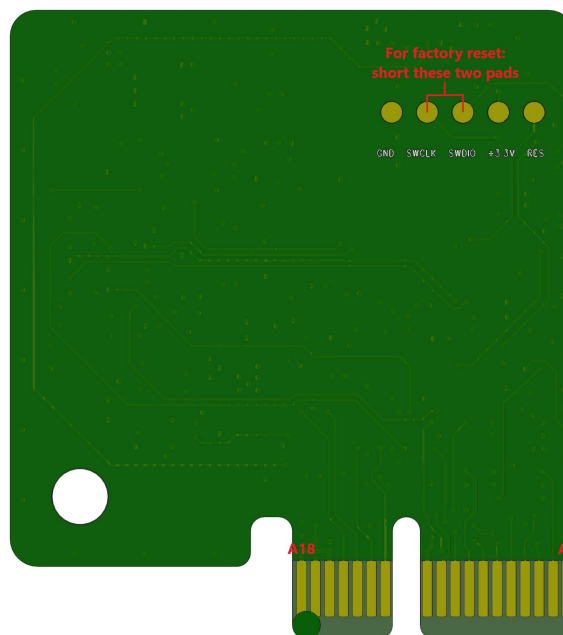

Figure 2: Bottom side of TCM-0930 with marked copper pads A1-A18
2. Short SWCLK and SWDIO pads of programming pads on bottom of pcb (see figure 2).